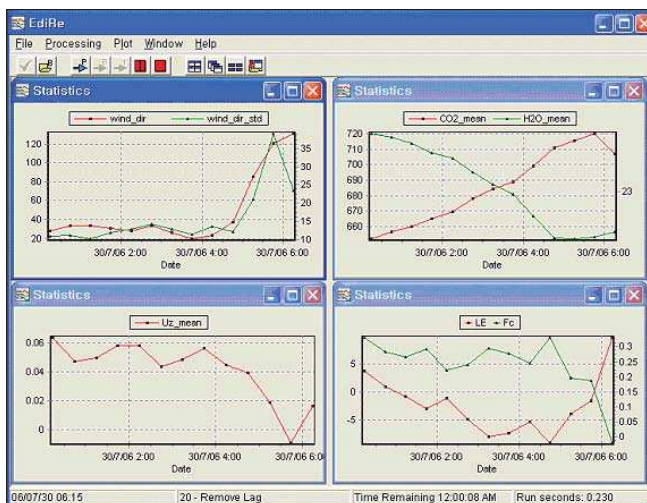
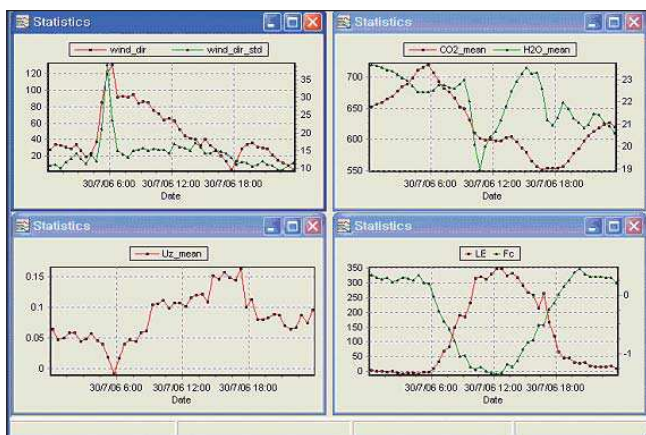

Figure 33: A snapshot of EdiRe plotting the computed values, as the processing goes on.
Figure 34: Status information such as Time Remaining and Run Seconds has disappeared from the bottom of the screen indicating that processing is complete.
- Upon pressing the OK button, EdiRe will begin retrieving the raw data and processing them. You will see the graph plotting as it performs the processing, if you added "Plot Value" instructions. Figure 33 is a snapshot of EdiRe plotting the computed values, as the processing goes on.
- While EdiRe is processing the raw data, the processing status will be displayed on the bottom of the EdiRe screen (see Figure 33). Once the processing is complete, this status message will disappear automatically, and the completed plots will remain on the screen (see Figure 34).